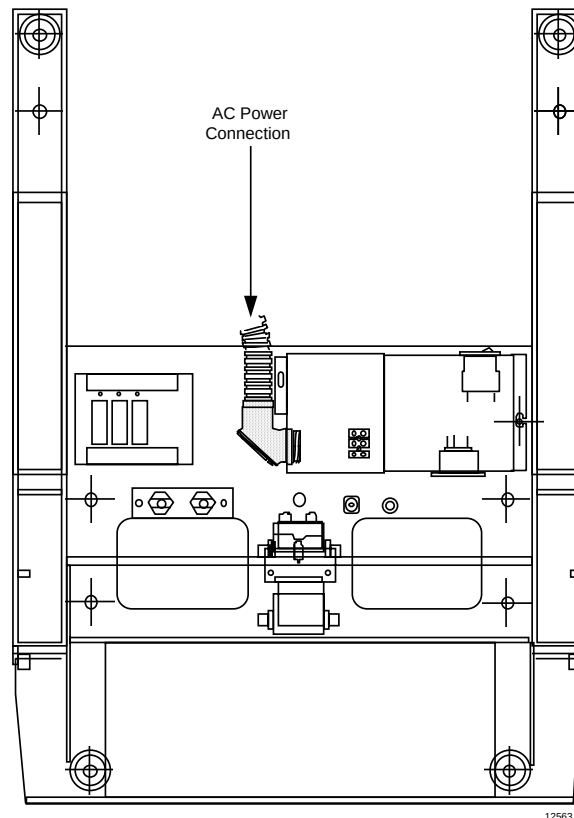

Figure 5-3 Power Entry to Z-Furniture Stations (Rear Entry)
- Figure 5-3 shows access from the rear of the station.